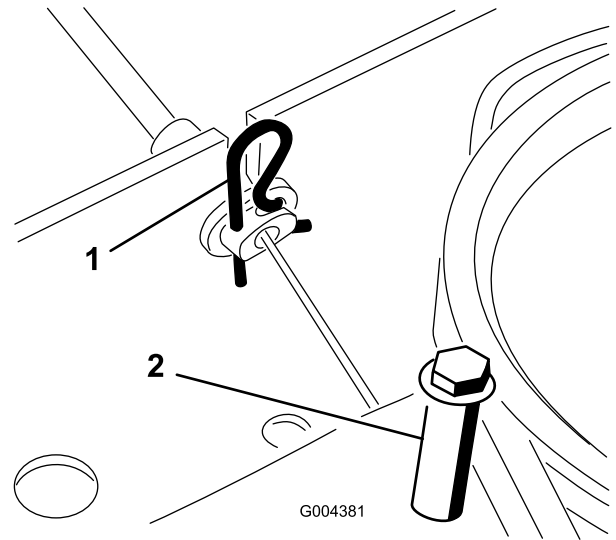

Figure 10
6. Install the deck engagement cable into the rear cross brace (Figure 10).